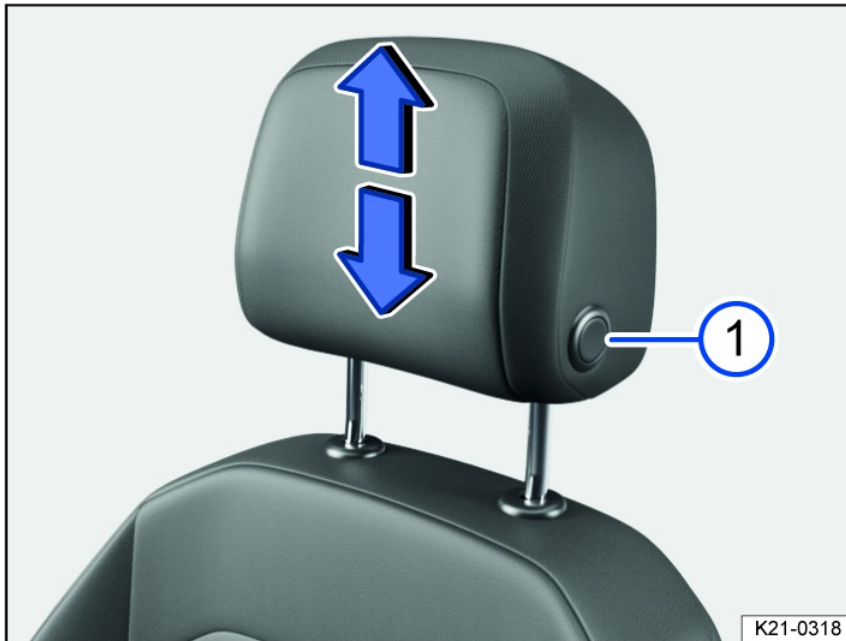

Fig. 82 General example: adjusting the front head restraint.
1. If necessary, slide the head restraint upward or downward in the direction of the arrow and when pressing the *fig. 82* button.